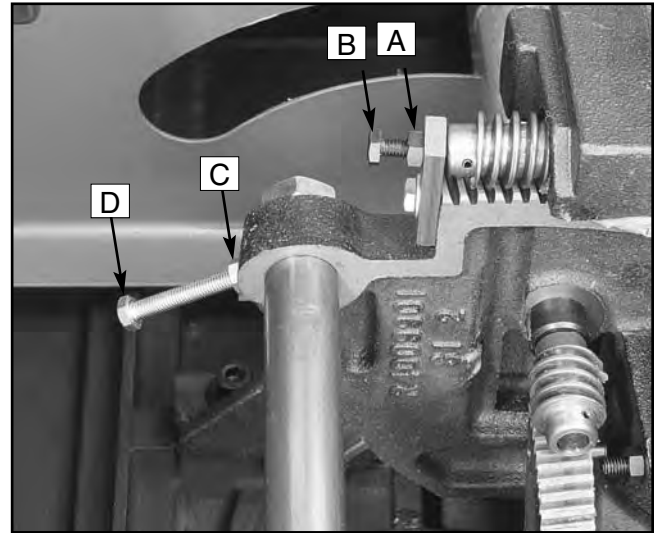

Figure 47. 90° and 45° stop bolt adjustments.
5. If a gap exists at either the top or the bottom of the square, loosen lock nut (A) and adjustment bolt (B) indicated in **Figure 47**.
9. If variations exist, loosen the lock nut (C) and adjust the stop bolt (D) (**Figure 47**) until your blade and square match.